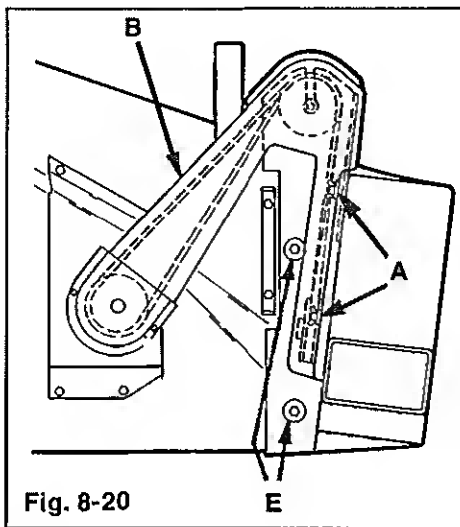

Fig. 8-20
(Fig. 8-20, 8-21 & 8-22)
4. Re-install belt guard Fig. 8-20.